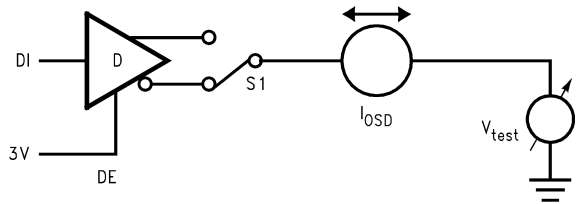

Figure 5. Driver I_{OD3}
| I_{OSD} | Driver Output Short-Circuit Current | $V_O = +12V$ | (485) See Figure 5 | | 200 | +250 | mA | |